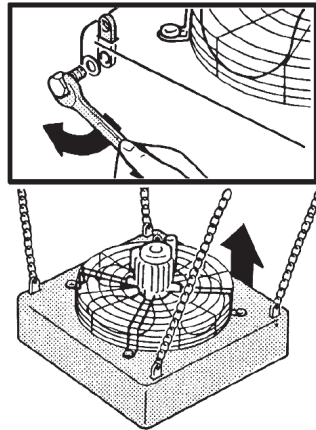

Figure 7. Suspending Heater for Vertical Discharge
1. Install suspension plates, M8 metric screws, and flat washers provided with unit as shown in Figure 7.